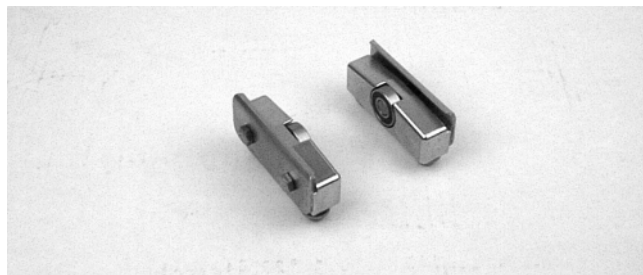

**Figure 11**
3. Attach clamp plates on each side of conveyor (Figure 11). Tighten the screws (S) 10.4 Nm.